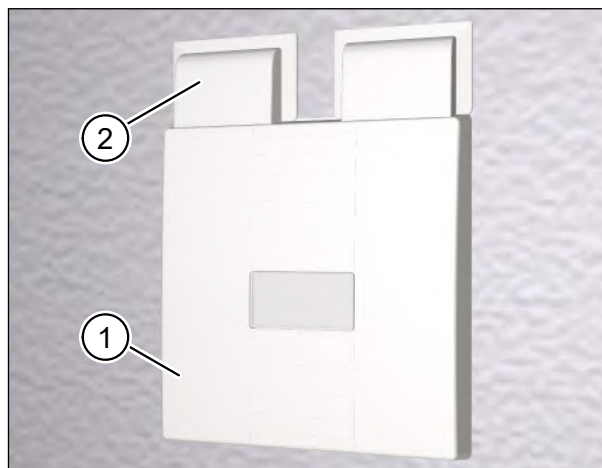

Fig. 39: Ventilation unit installed
- Installation of the ventilation unit (item 1 in Fig. 39) in the installation kit is described in a separate installation manual (see “1.8 Supplementary documents” on page 6).
- Installation of the duct adapters (item 2 in Fig. 39) is described in a separate installation manual (see “1.8 Supplementary documents” on page 6).